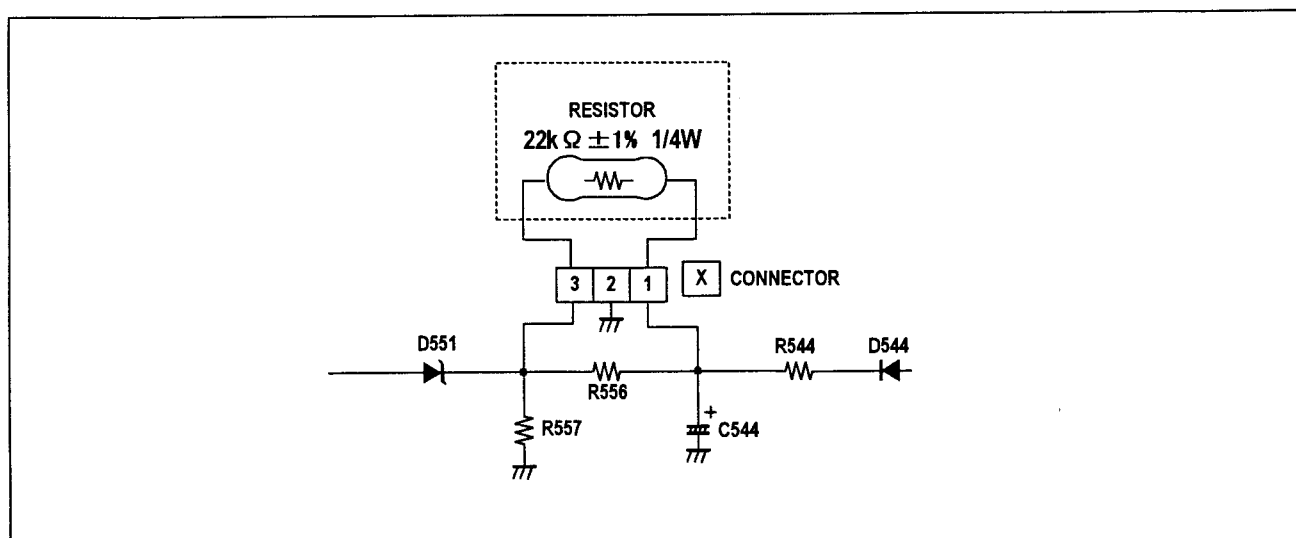

Fig.2
- (1) Turn the POWER SW ON.
- (2) As shown in Fig.2, set the resistor (between [X] connector [1] & [3] ).
- (3) Make sure that the screen picture disappears.
- (4) Temporarily unplug the power cord.
- (5) Remove the resistor (between [X] connector [1] & [3] ).
- (6) Again plug the power cord, make sure that the normal picture is displayed on the screen.